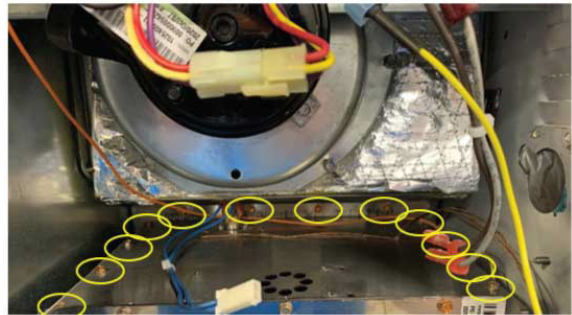

Fig. 19 – Screws Re-installed on 90k Top Cover
9. Re-install the 12 screws back on the top cover of the Burner Box as shown in Fig. 19.